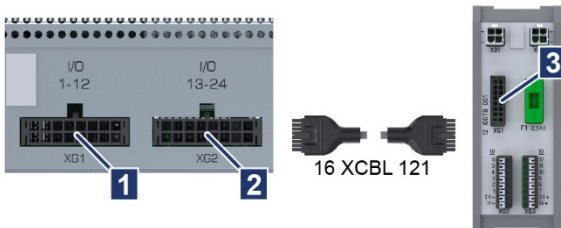

Fig. 6-9: XAL to XIOTB
1. Plug the connection cable 16 XCBL 121 into terminal *XG1* (I/O 1-12) or *XG2* (I/O 13-24) (→ Fig. 6-9/1 and 2) on the analog line module and into terminal *XG1* on terminal block XIOTB (→ Fig. 6-9/3).